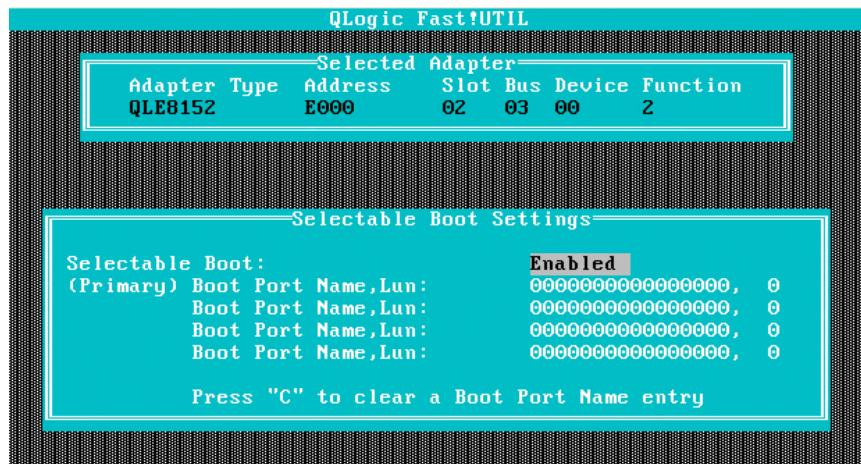

Figure 7-8. Selectable Boot Settings Menu
- j. Enable the Selectable Boot option in the Selectable Boot Settings menu. Move the cursor to the Selectable Boot option, and then press ENTER (Figure 7-8).